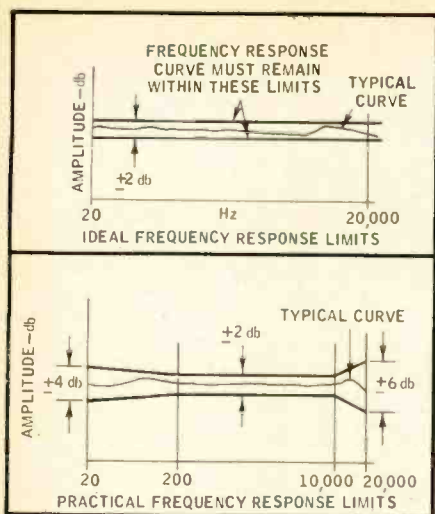

Fig. 1. Frequency-response limits—(A), Ideal; (B) Practical.
Theoretically, we might say that for perfect reproduction the frequency response of the cartridge should be flat over the entire range of interest. To be realistic, however, we must define what we mean by the word "flat." It is difficult for even the best listeners to detect variations in frequency response of ± 2 dB. A cartridge with a response flat within ± 2 dB as shown at (A) in Fig. 1 would, therefore, provide the practical ultimate in frequency response.
gram material, however, does not require such a narrow tolerance on response. The energy content in most program material decreases rapidly in both low- and high-frequency ranges. As a result it is possible to broaden the allowable tolerance in response in these ranges. We believe that (B) of Fig. 1 presents a more realistic approach wherein the response tolerance is wider below 200 and above 10,000 Hz. Listening tests on a large variety of program material indicates that a cartridge falling within the limits shown in (B) would sound similar to other cartridges falling within the same limits (other things such as distortion being equal, which they frequently are not).